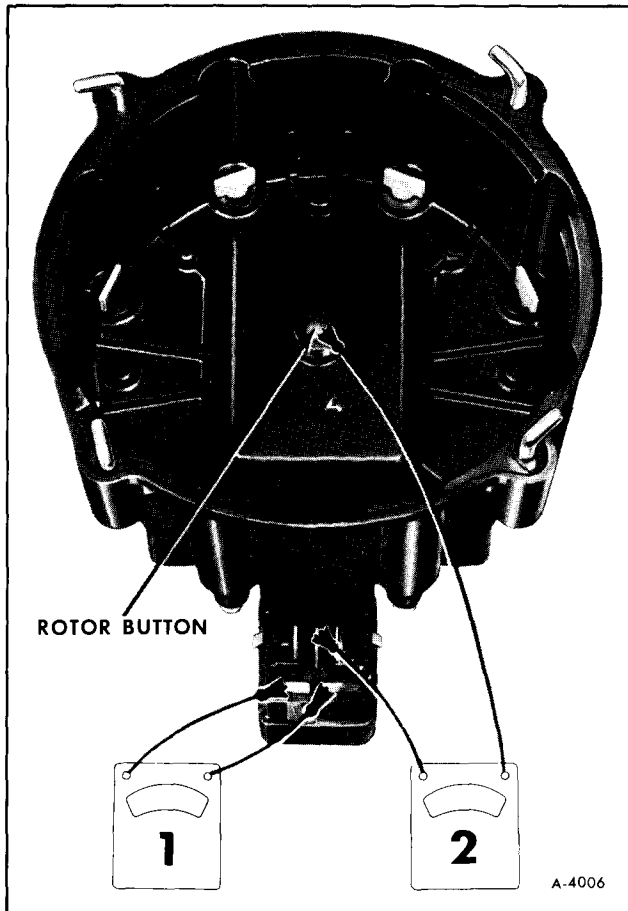

Figure 56—Ohmmeter Check of Ignition Coil
g. Check primary of ignition coil in cap for continuity (step 1, figure 56). Reading should be zero or near zero. If not, replace ignition coil.
h. Check secondary of coil (step 2, figure 56). Use high scale. Reading should not be infinite.
a. Check primary of ignition coil in cap for continuity (step 1, figure 56). Reading should be zero or near zero. If not, replace ignition coil.
b. Check secondary of coil (step 2, figure 56). Use high scale. Reading should not be infinite.